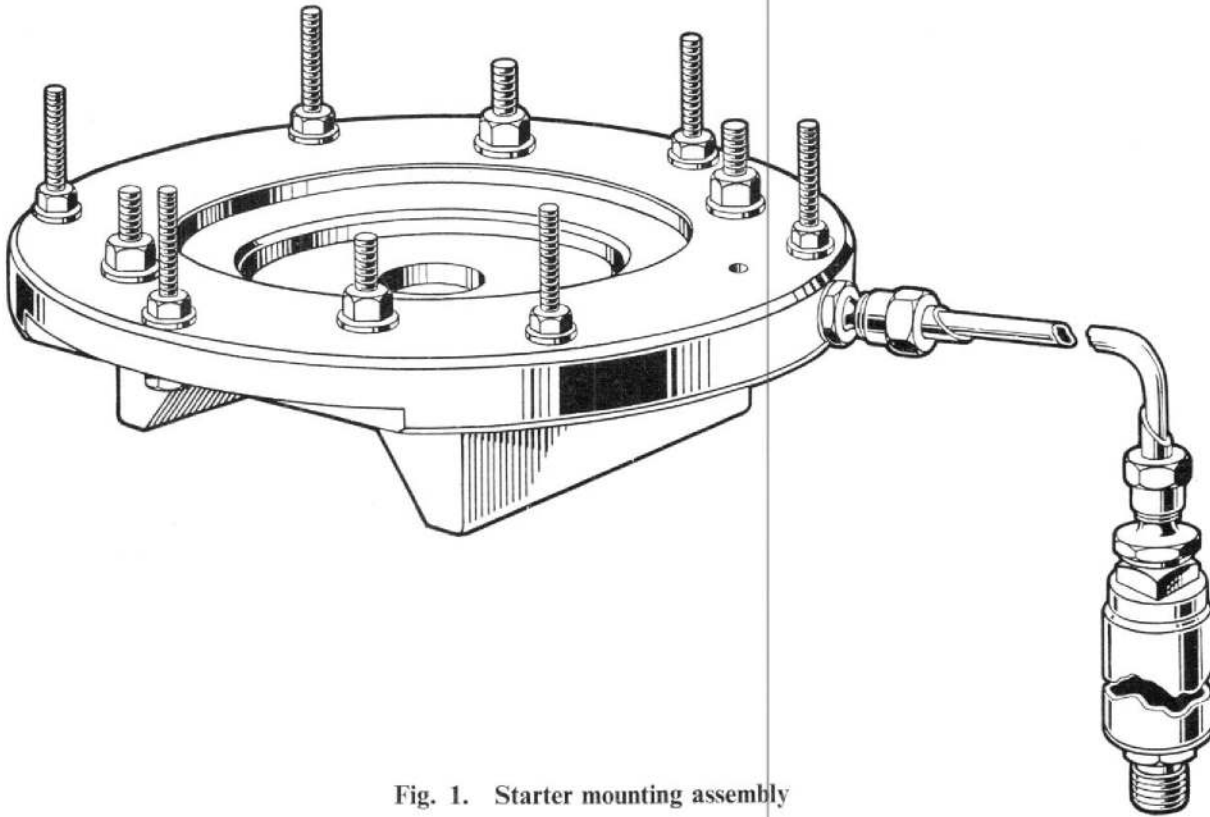

Fig. 1. Starter mounting assembly
18. A vice fixture for holding the starter during the early stages of dismantling is illustrated in fig. 1. This fixture must be firmly gripped in a vice, after which the starter mounting flange can be located over the inner circle of bolts and retained by four washers and nuts (fig. 2). Remove the firing head but before proceeding further remove all cartridges left in the barrels.
31. A fixture for holding the starter during the early stages of dismantling is illustrated in fig. 1.